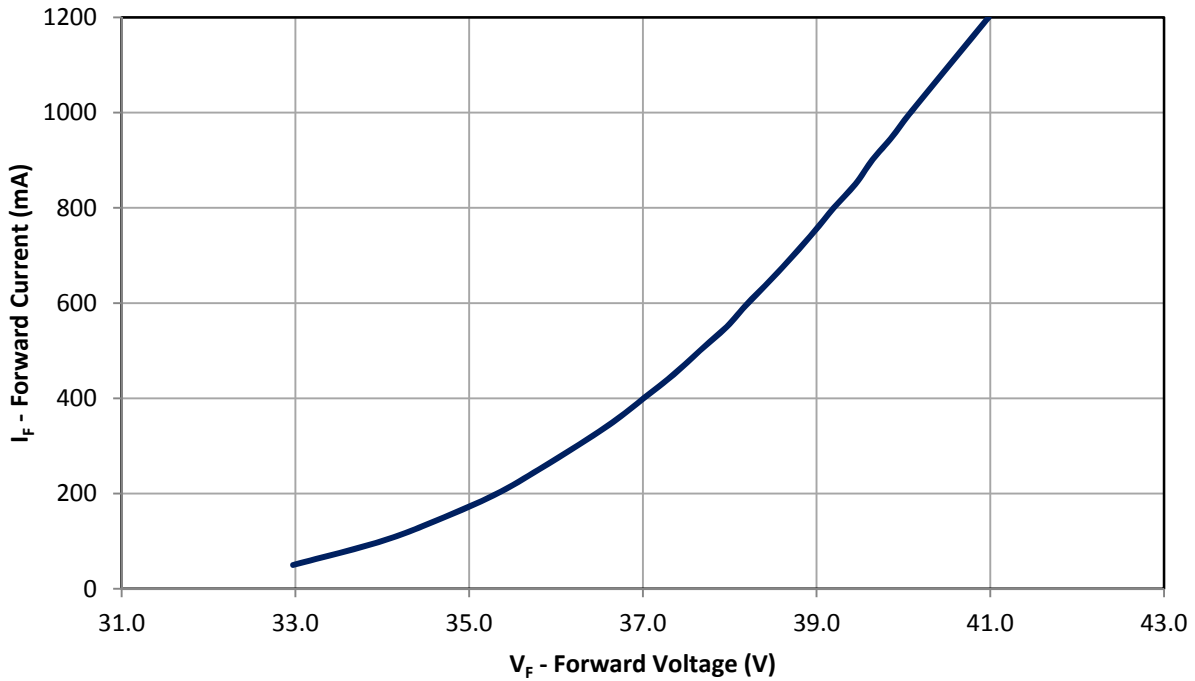

Figure 10: Typical forward current vs. forward voltage @  $T_c =$  at 25°C.
- Maximum DC forward current (per die) is determined by the overall thermal resistance and ambient temperature. Follow the curves in Figure 10 for current derating.
Note for Figure 10: